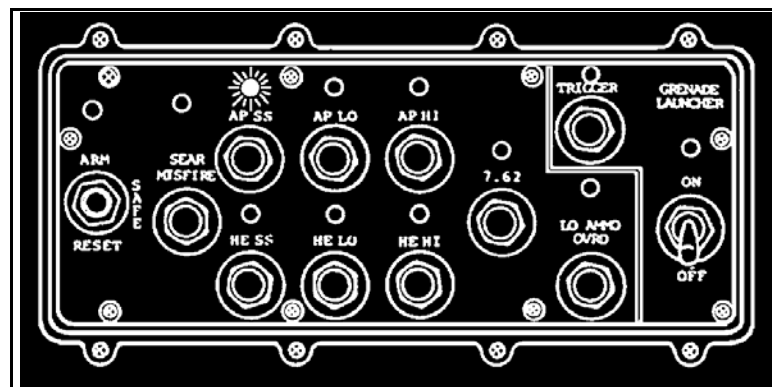

Figure 2. AP SS button and indicator light.
- d. Push the AP SS or HE SS button on the weapon control box (Figure 2).